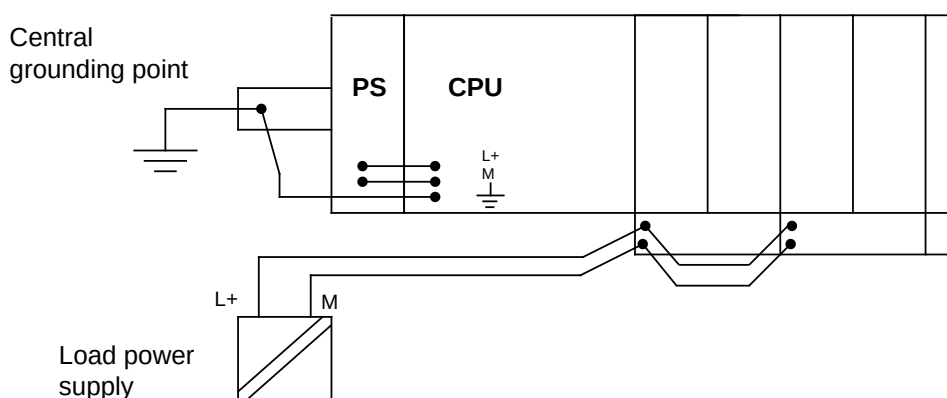

Figure 3-23. Simplified Representation of a Galvanically Isolated Connection of the I/Os to the S5-100U
1. Connect the L+ and M terminals of the PS 931 power supply module to the corresponding terminals on the CPU (see Figure 3-23).
Figure 3-23 shows a simplified connection of galvanically isolated I/Os.